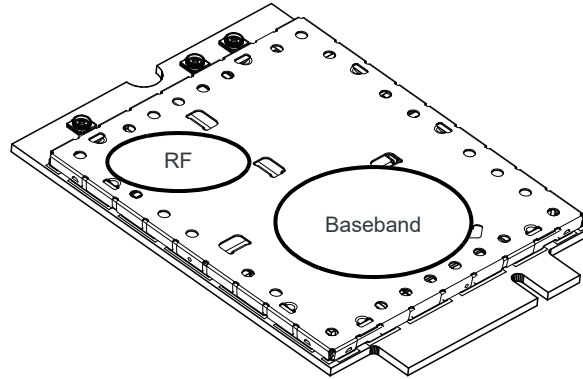

Figure 7-4: Shield Locations (Top View)
- Monitor temperature at all shield locations. Attach thermocouples to the areas indicated in Figure 7-4 on page 60 (RF, Baseband).